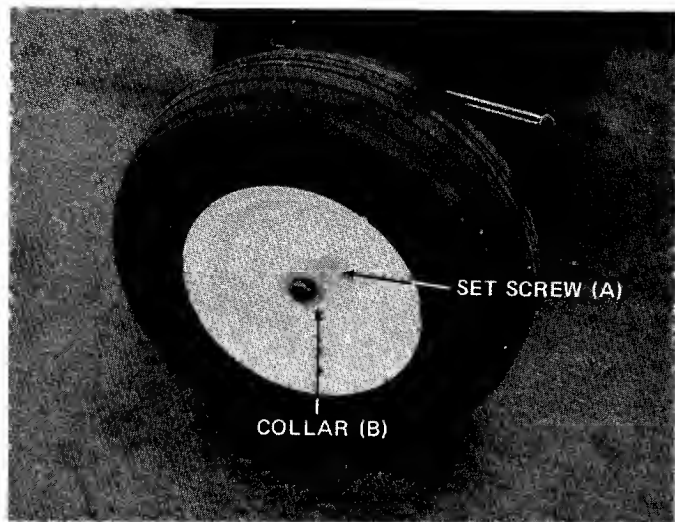

FIGURE 3
2. Place spacers (C) on axle, then wheels and secure with collars (B) and set screws (A). See figure 3.